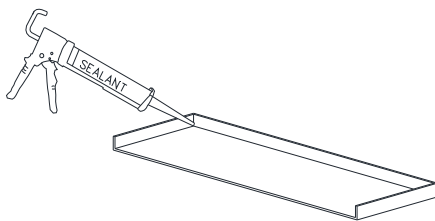

Figure 10:
- Apply sealant in all corners and seams of the sillpan (Figure 10).